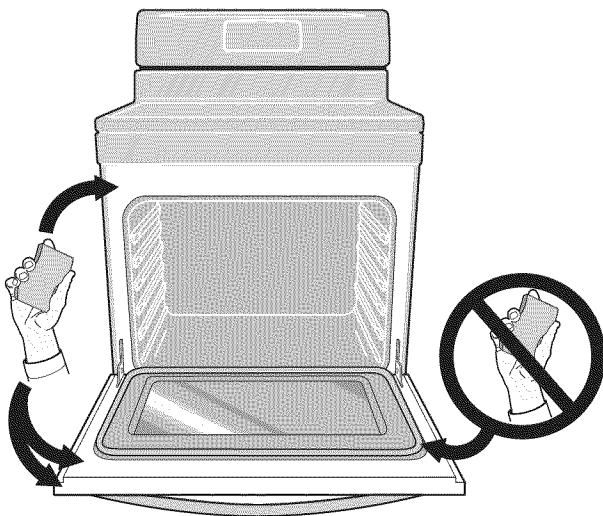

Figure 38: Areas to clean and to avoid
- Do not use oven cleaners or oven protective coatings in or around any part of the oven interior. Clean any soil from the oven frame, the door liner outside the oven door gasket, and the small area at the front center of the oven bottom (See Figure 38). These areas heat sufficiently to burn soil on. Clean using soap and water prior to starting Self Clean.